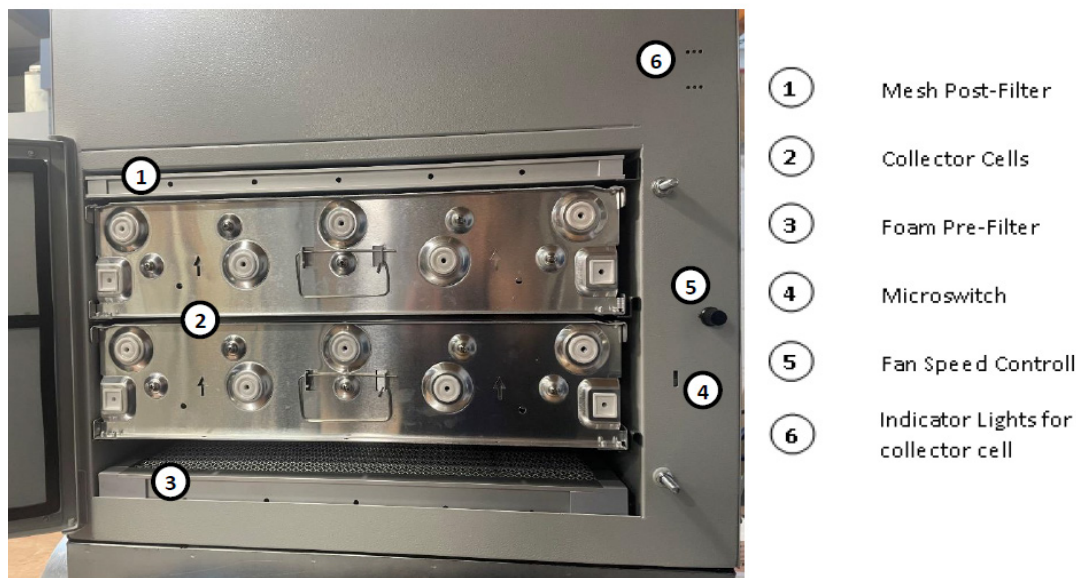

Figure 2: OMU 1000 Filtration Components
2. Ensure the two collector cells are in the correct orientation and the foam filter and mesh filter are in place, as shown in Figure 2 on page 6.